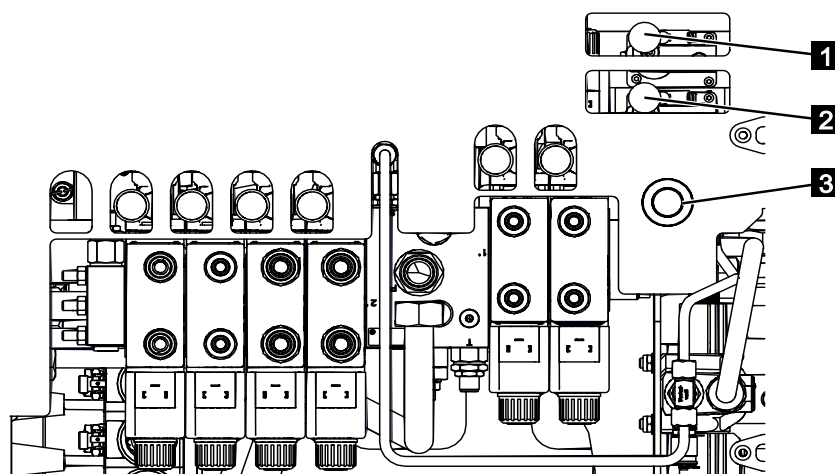

Fig. 189
5. Press and hold the button *[emergency mode]* (Fig.189/3).